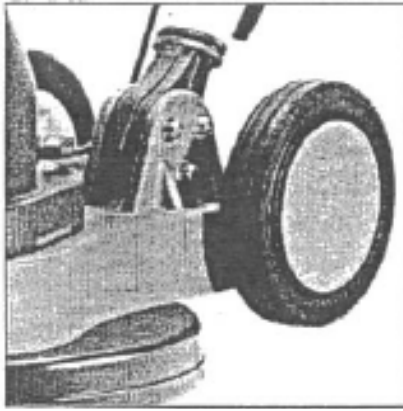

Fig. 1
- M8 x 70 Hex.Hd. bolt (3)
- M8 Nyloc Hex. nut (3)
- M8 Plain washer (6)
- 13mm A/F Spanner (2)
5. Align holes in pivot with those on base and fit the three M8 bolts, washers and nuts, and tighten using the spanners supplied (Fig.1).